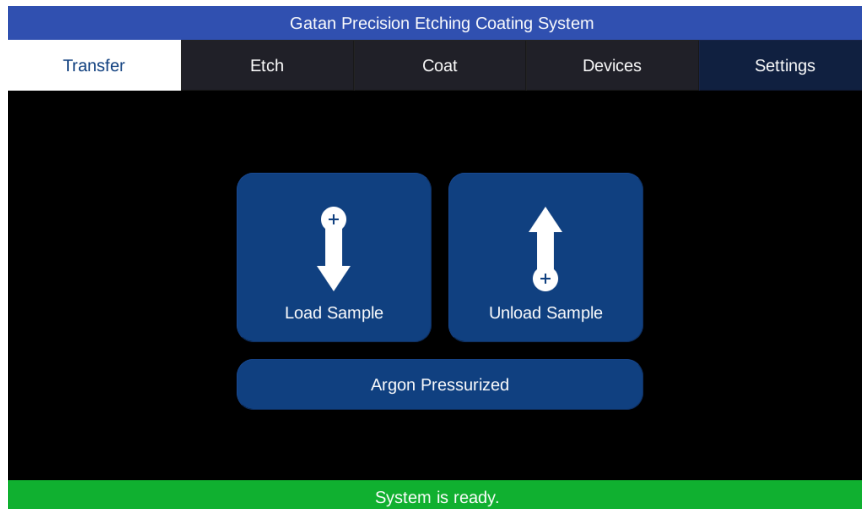

Figure 8-18 Transfer page
3. Select Load Sample (see Figure 8-18)